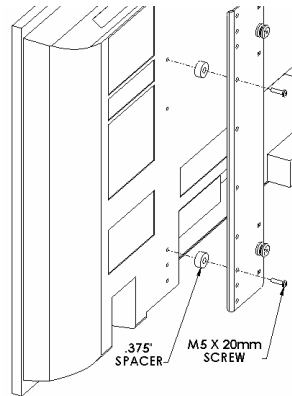
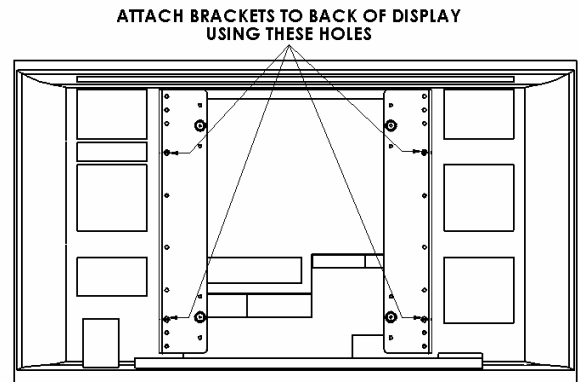

Figure 10
Figure 11
6. Place Nylon spacers on mounting holes, aligning hole pattern on brackets with pattern on back of the display (see Figure 10 & Figure 11).